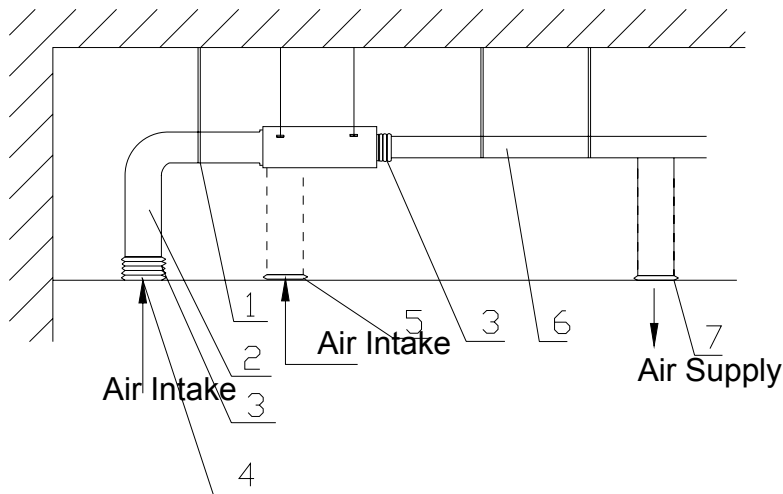

Figure 1-1-11
- ◆ Installation of Rectangular Air Duct as shown in Figure 1-1-11